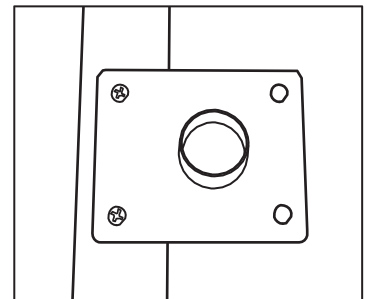

Figure: 4-9
A. MOUNT FLANGE: Mount flange to the desired location on a wall stud or floor using appropriate size screws to provide a firm mount (**Figure 4-9**). Do not attach the fitting to the flange at this point. This will be done after the fitting to the pipe connection has been completed. Insert pipe through the back of the flange after preparing pipe in accordance with steps 1 through 3, **making sure to strip the jacket to expose FIVE corrugations**.